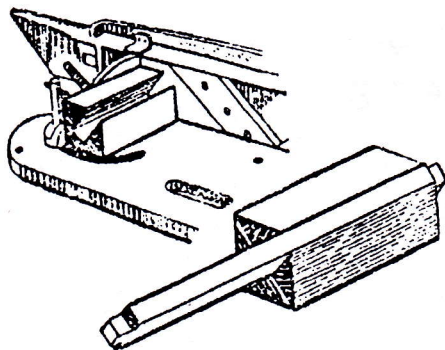

FIG. 279.—TRIMMER WITH JIG FOR CUTTING SHOULDERS OF TENONS.
**Trimming Shoulders of Tenons.**—Here is another example—trimming the shoulders of tenons (see Fig. 279). Many workers who own a trimmer have never used or seen the machine used for this purpose. A hardwood block is made, a screw from the back of the fence holding it in position. The bearer rail is dropped into the recess, and the shoulder (which has previously been rough sawn to its length) is trimmed exactly to the line which has been marked by the scribing awl or marking knife. The blade of the machine, set at 45 degrees, exactly fits and finishes the cut right up to the internal angle of the shoulder and tenon. An enlarged view of this temporary block with a short length of tenoned stock is shown near the general illustration.